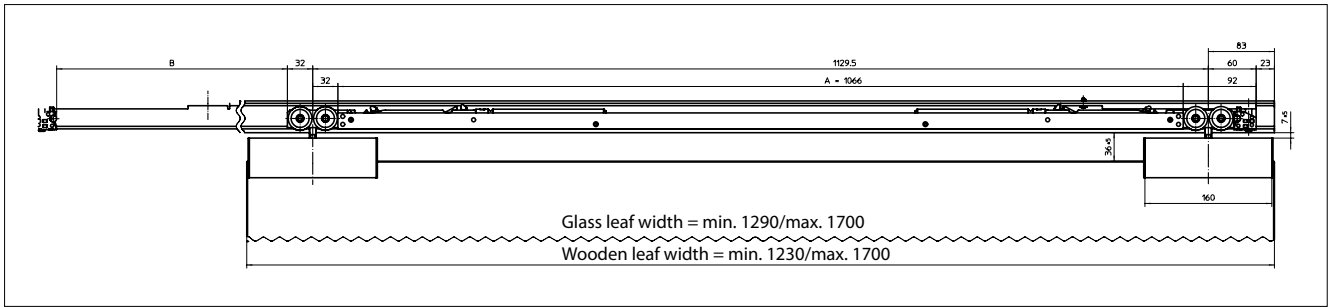

Fig. 41-1
e.g. with glass leaf, long design (2-sides), damping in both directions, see Fig. 41-1